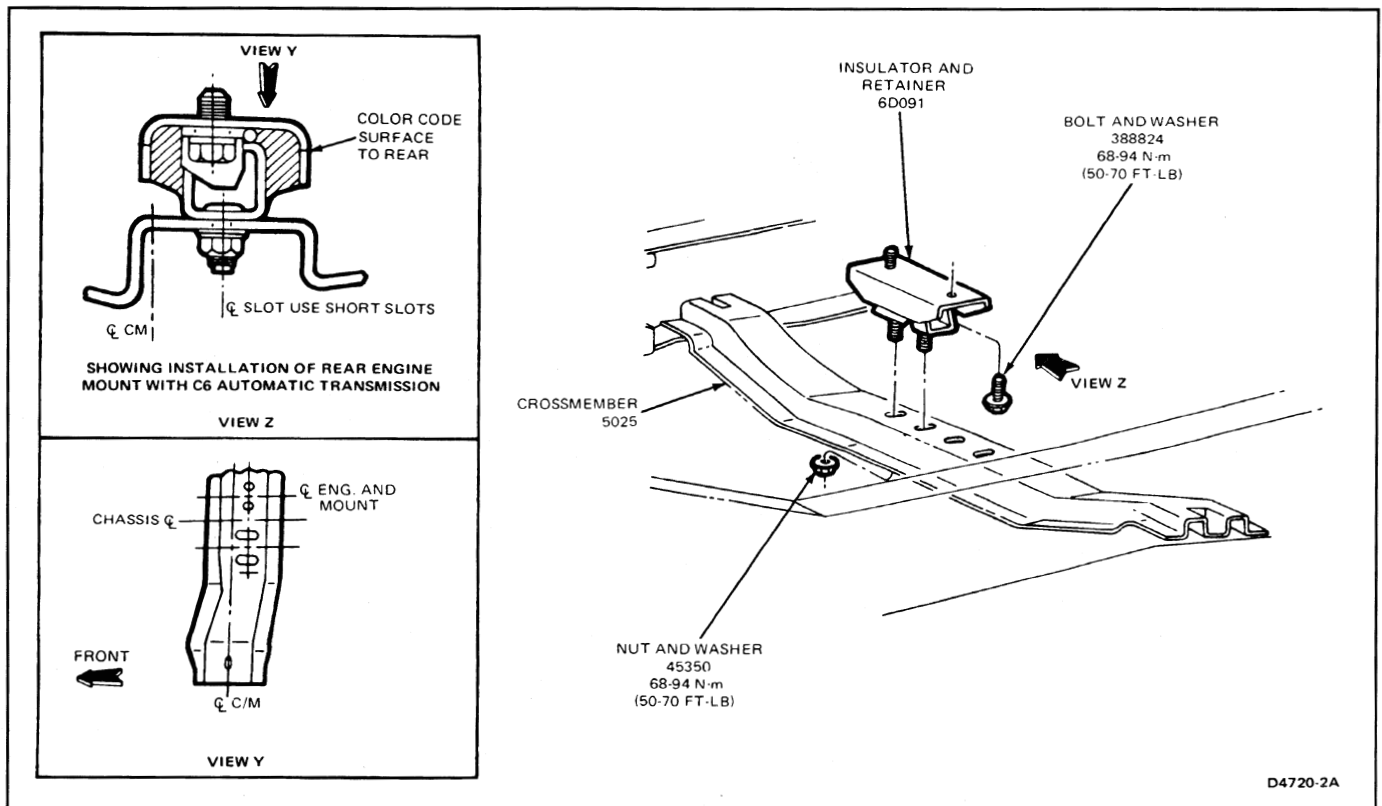

FIG. 9 Crossmember Installation—E-150—E-250—E-350
19. Remove the bolts and nuts securing the rear support and insulator assembly to the crossmember. Remove the six bolts retaining the crossmember to the side rails and remove the two support gussets. Raise the transmission with the jack and remove the crossmember (Fig. 9).